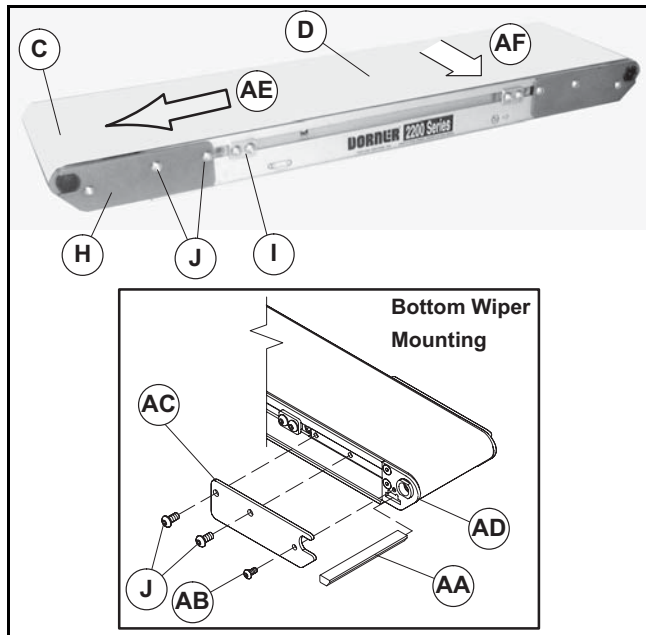

Figure 13
1. At tension end on both sides of conveyor, loosen belt tracking cam assemblies (Figure 13, item I) (if equipped) and slide them toward middle of conveyor.
3. If removed, slide bottom wiper (Figure 13, item AA) into slot in head plate (AD).
4. Install tail cover plate (AC) and three screws (J and AB) to secure bottom wiper at discharge end of conveyor. Securely tighten screws.
6. At tension end on both sides of conveyor, slide belt tracking cam assemblies (I) (if equipped) until tight against tail assembly (H).